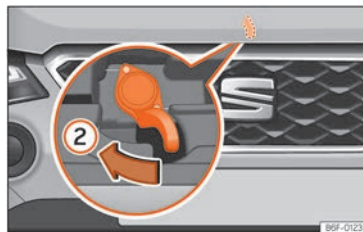

Fig. 180 Lever under the bonnet.
- To lift the bonnet, press towards the left on the lever located under the bonnet, in the centre >>> **Fig. 180 ②**. The fastening hooks are unlocked.